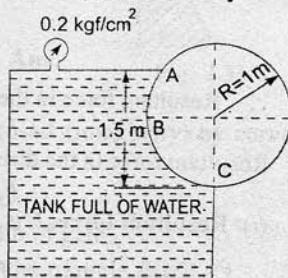

Fig. 3.35
**Problem 3.28** Fig. 3.35 shows the cross-section of a tank full of water under pressure. The length of the tank is 2 m. An empty cylinder lies along the length of the tank on one of its corner as shown. Find the horizontal and vertical components of the force acting on the curved surface ABC of the cylinder. (A.M.I.E., May 1974)